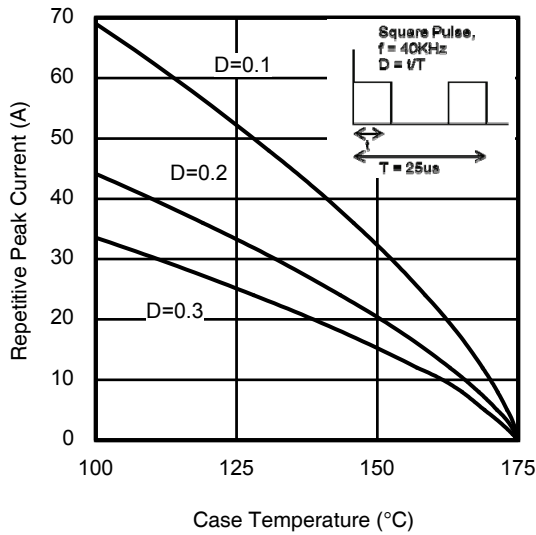

Fig. 26 - Typical Gate Charge vs. V_{GE}
- ① V_{CC} = 80% (V_{CES}), V_{GE} = 20V, L = 210μH, R_G = 10Ω.
- ② R_θ is measured at T_J of approximately 90°C.
- ③ Refer to AN-1086 for guidelines for measuring V_{(BR)CES} safely.
- ④ Pulse width limited by max. junction temperature.
- ⑤ Values influenced by parasitic L and C in measurement.
- ⑥ f_{sw} = 40KHz, refer to figure 26.